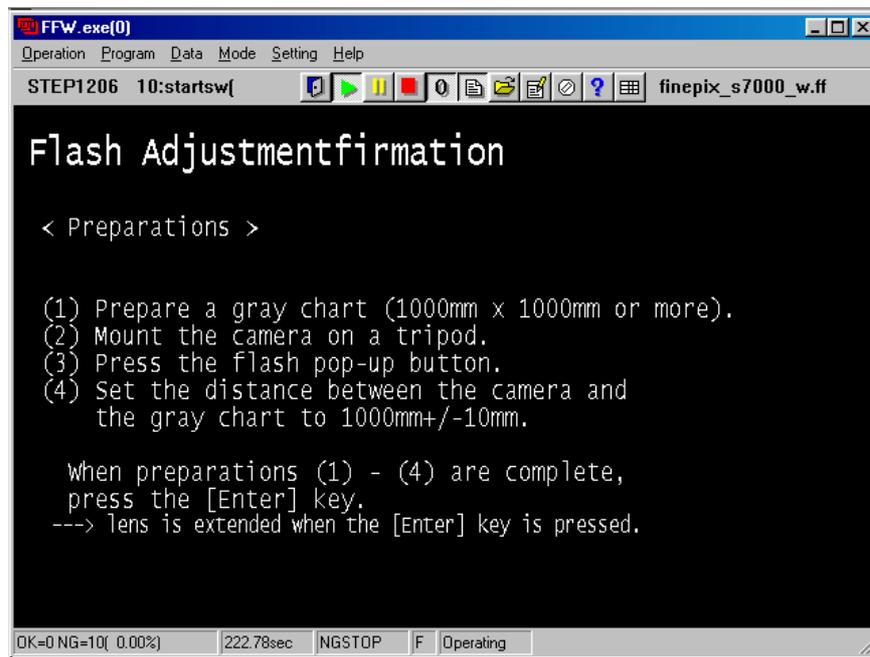

Fig.27
---> The [Flash Adjustment Preparation Screen (Fig.27)] appears.